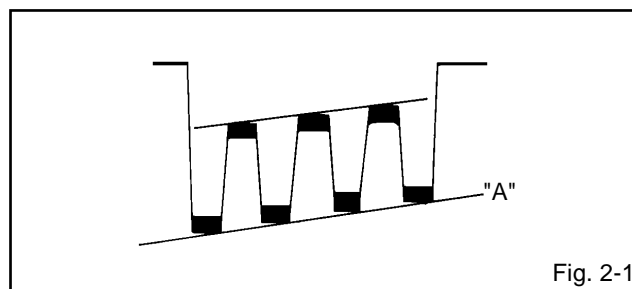

Fig. 2-1
4. Press the VOL. UP/DOWN button on the remote control until the section "A" becomes as straight line. **(Refer to Fig. 2-1)**